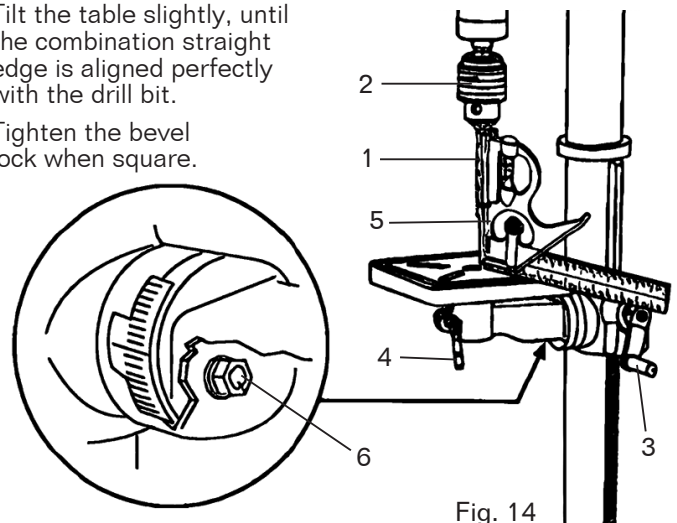

Fig. 14
## SQUARING TABLE TO THE DRILL BIT (FIG. 14)
1. Insert a 3" long drill bit (Fig. 14 - 1) into the chuck (Fig. 14 - 2) and tighten the jaws with the chuck key.
2. Raise the table with the crank handle (Fig. 14 - 3). Lock the table (Fig. 14 - 4) approximately 1" below the drill bit.
4. If an adjustment is needed, loosen the bevel lock bolt (Fig. 14 - 6) with a wrench.